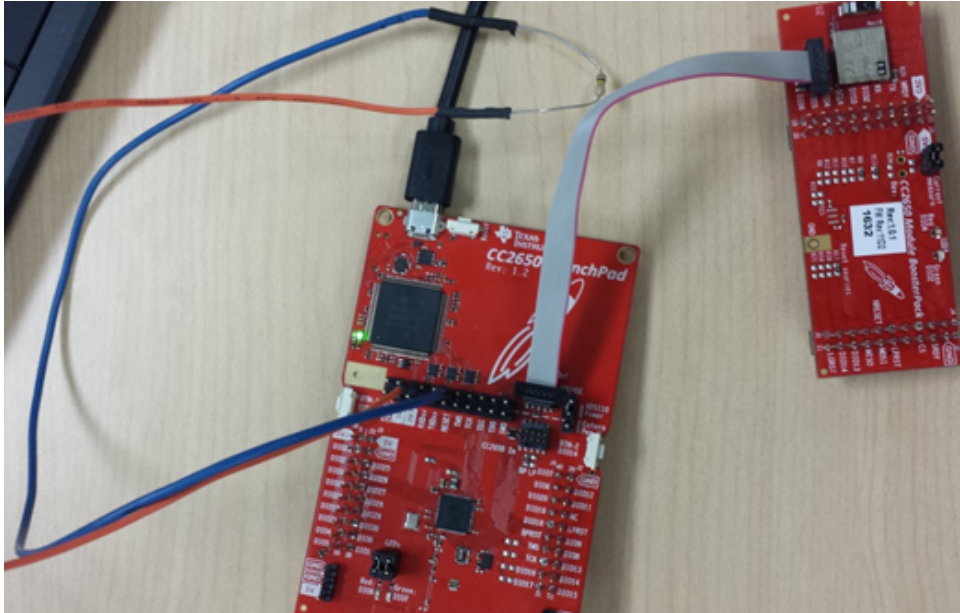

Figure 1. CC2650 Module to CC2650 LaunchPad Connection
1. Connect the 10-pin JTAG cable to the JTAG pins on the CC2650 module, then connect the other end of the cable to the XDS110 Out pins on the CC2650 LaunchPad (see Figure 1).
3. Insert a 100-k resistor between the 3V3 and reset pins on the XDS side of the JTAG-CC2650 jumper header on the launchpad (see the orange and blue headers in Figure 1).